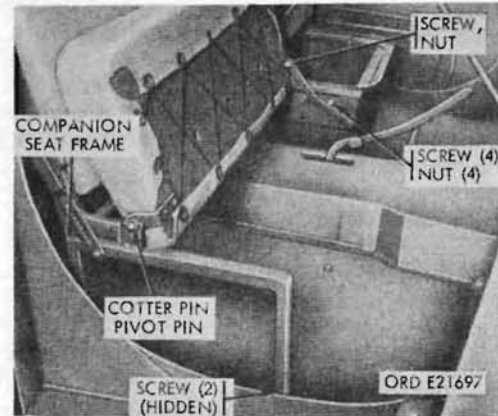

Figure 262. Companion seat removal
- (1) Removal. Lift up the companion seat cushion, remove the two screws securing the companion seat frame legs to the floor, remove the four safety nuts and screws securing the seat frame to the driver's seat base, and remove the seat (fig. 262).
- (2) Installation. Place the companion seat on the floor and secure the seat frame to the driver's seat base with four hex-head screws, and safety nuts. Secure the seat frame legs to the floor with two hex-head split lockwasher screws.
- (1) Removal. Remove the two cotter pins and the pivot pins or the two safety nuts and screws holding the seat cushion hinges to the seat frame (fig. 262). Lift up the seat cushion, and remove the safety nut and screw holding the cushion to the seat cushion link, and remove the seat cushion. Pull up and pull out on the bottom rear edge of the backrest cushion, and pull the cushion from the backrest frame.
- (2) Installation. Seat the top rear edge of the backrest cushion under hooks on the top edge of the backrest frame. While pulling up on the cushion, press the cushion back to seat the lower edge in the frame. Place the seat cushion on the seat frame, and install the two pivot and cotter pins or two hex-head screws and safety nuts through the seat and frame hinge to secure the seat. Lift up the seat and secure the cushion to the seat cushion link with a hex-head screw and safety nut.